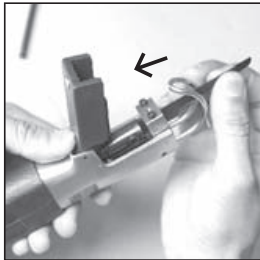

Figure 4
- (4) Insert a saw blade into the blade chuck (Part #45). Make sure that the blade is set correctly and securely. (See Figure 4)